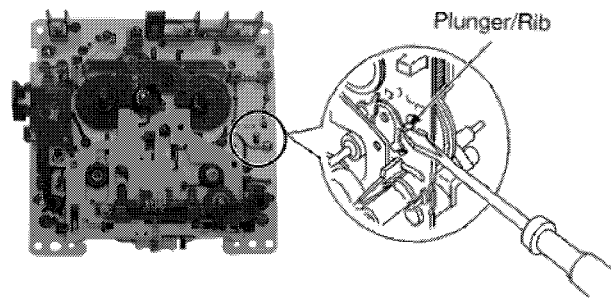

Fig. 7
3. Lift up the mechanism unit's plunger/rib with the tip of a negative screwdriver, and operate the unit in the same timing as supplying the power. (Cf. Fig. 7)